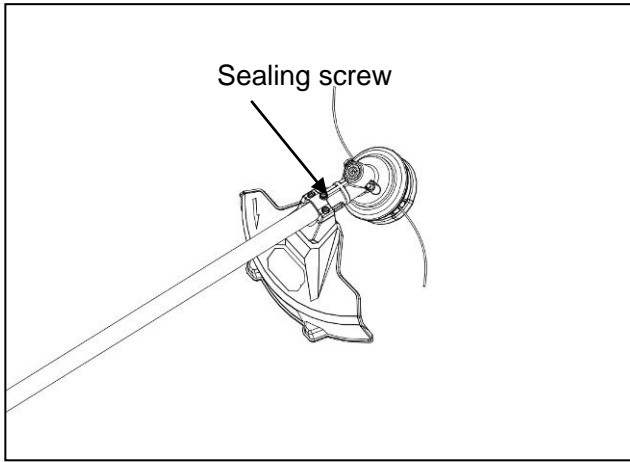

Fig. 23
1. Hold the string trimmer on its side so that the sealing screw is facing upwards (Fig. 23).